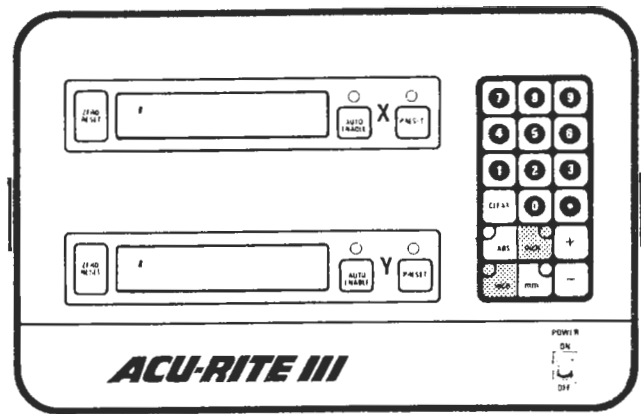

Figure 3-6. Console Status: Fault Indicator
- Push the INCR key (see Figure 3-6). The incremental key will light, changing the console to the incremental mode. The fault indicator(s) will light again, indicating that the fault circuits are working properly in the incremental mode.